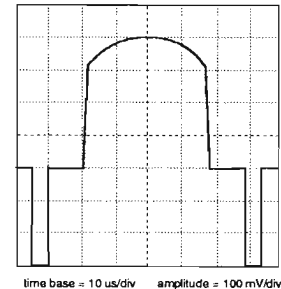

Fig. 4 : VIBS threshold
- measure VIBS WK3:MP7 and adjust the threshold to 400 mV with WK3:P6, see Fig 4.
- measure VIBS WK3:MP7 and adjust the threshold to 400 mV with WK3:P7, see Fig 4.
- measure VIBS WK3:MP7 and adjust the level to 400 mV with WK3:P5, see Fig 4.